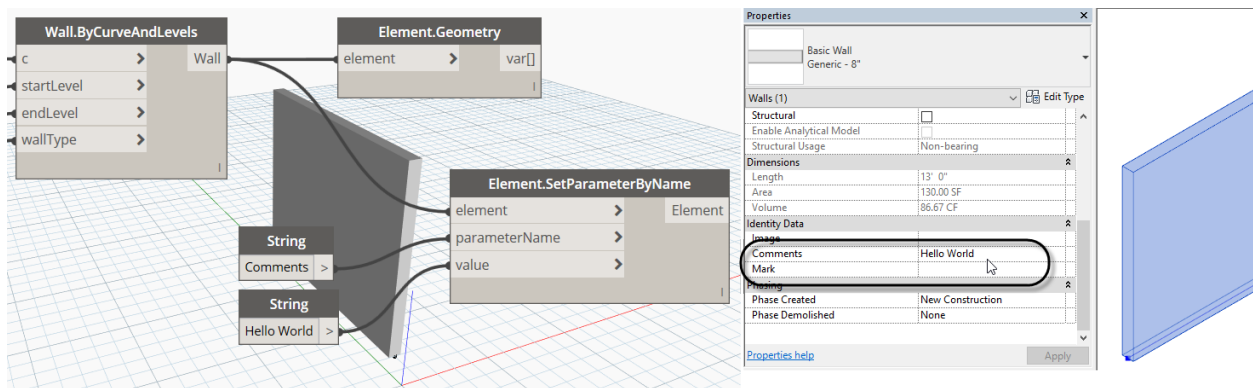

Figure 24
35. Wire the output from the *Wall.ByCurveAndLevels* node to the **element** input on the *SetParameterByName* node (see Figure 24).